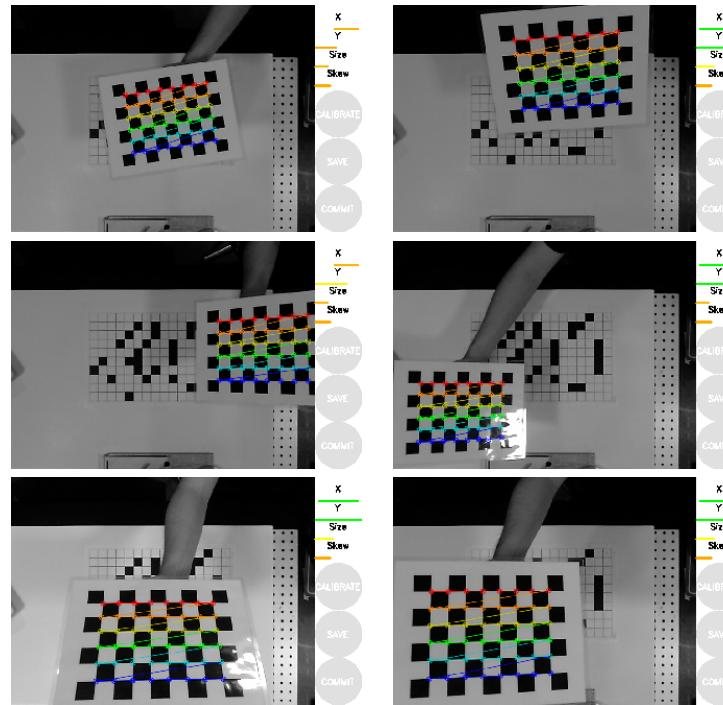

Figure C.2: Ensuring the diversity of samples
- Try place the checker board near the camera frame's center, edges and corners; with different orientations and tilt angles; at both far and close distances(Figure C.2).